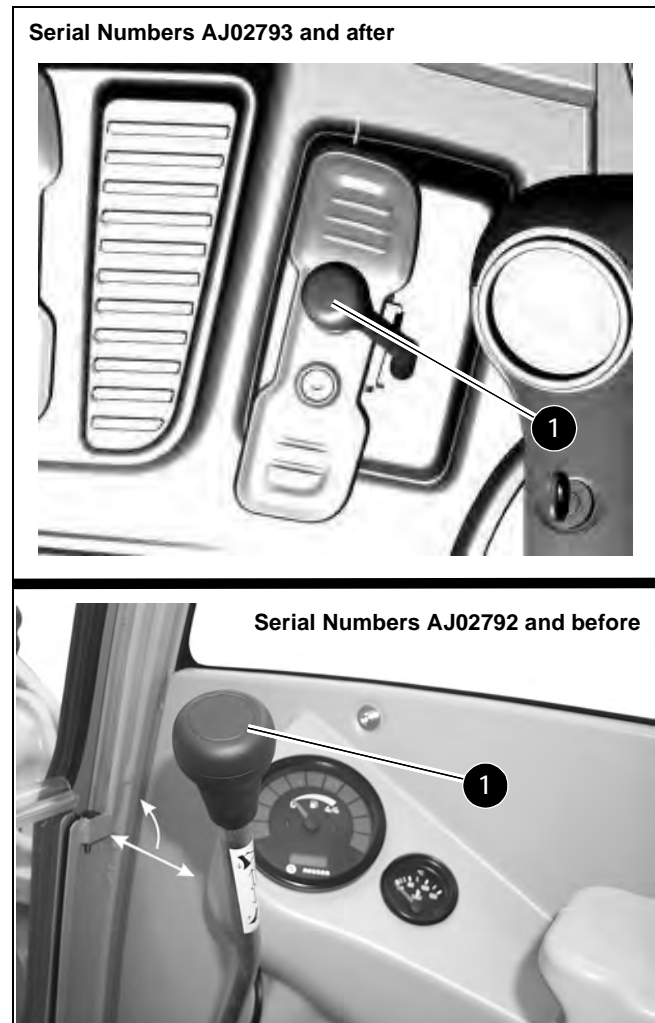

Figure 3-19 Dozer Blade Control
The dozer blade is controlled by the dozer control pedal/lever (1) located next to the travel controls. See Figure 3-19.